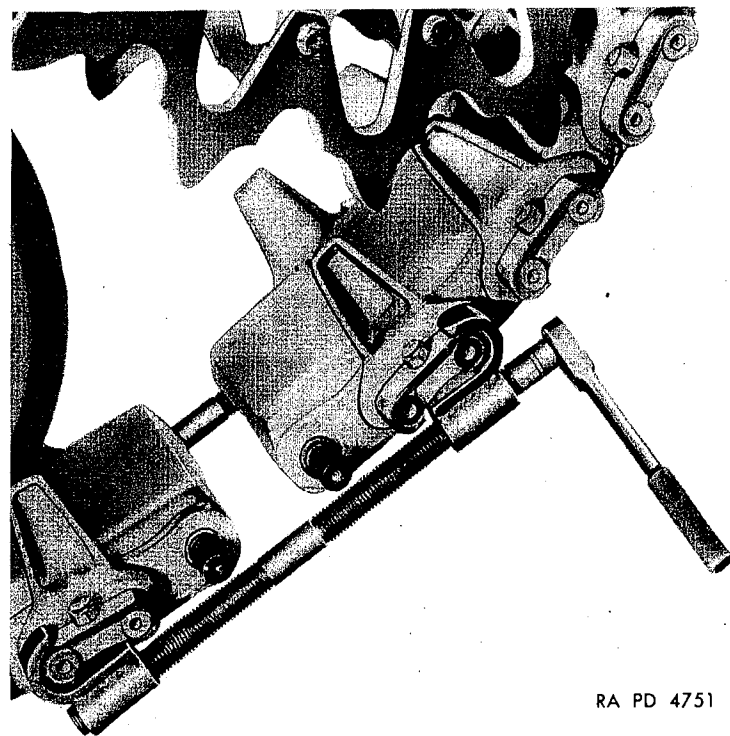

Figure 63—Track Stretcher
(4) Mount track stretcher, Tool No B-226797, on track as shown in Fig. 63.
(5) Bring end shoes together by means of track stretcher and drive end connections on track shoe pins as far as possible.
(6) Install end connection wedges and safety nuts.
(7) Loosen and remove stretcher.
(8) Adjust track tension as explained in Paragraph 112.